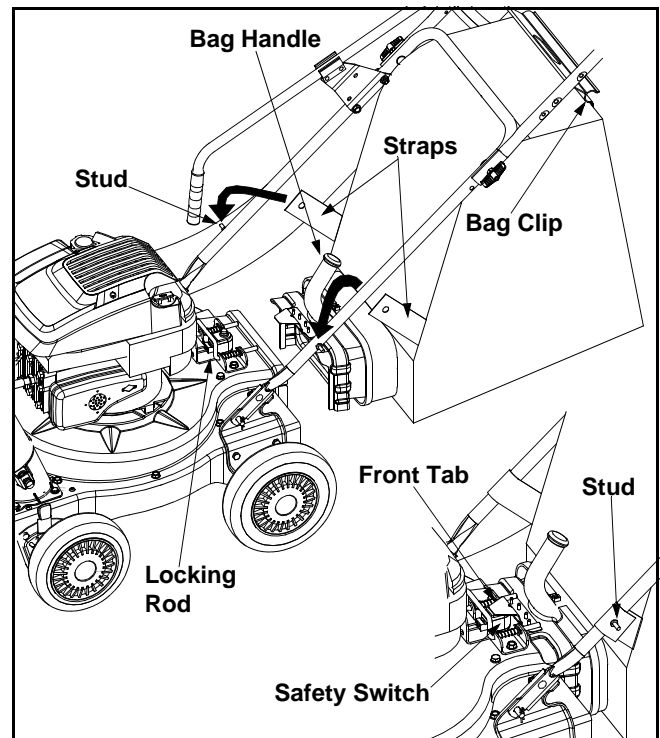

Figure 4
- Grasp bag handle with one hand and slide locking rod on mounting bracket with other hand toward engine. Use the end of mounting bracket as leverage when sliding the locking rod. See Figure 4.
**NOTE:** The safety switch button attached to the mounting bracket must be fully depressed by the front tab on the bag handle when securing the bag or the engine will not start. See Figure 4.
- Remove bag from rim of the discharge opening. Refer to Figure 4.